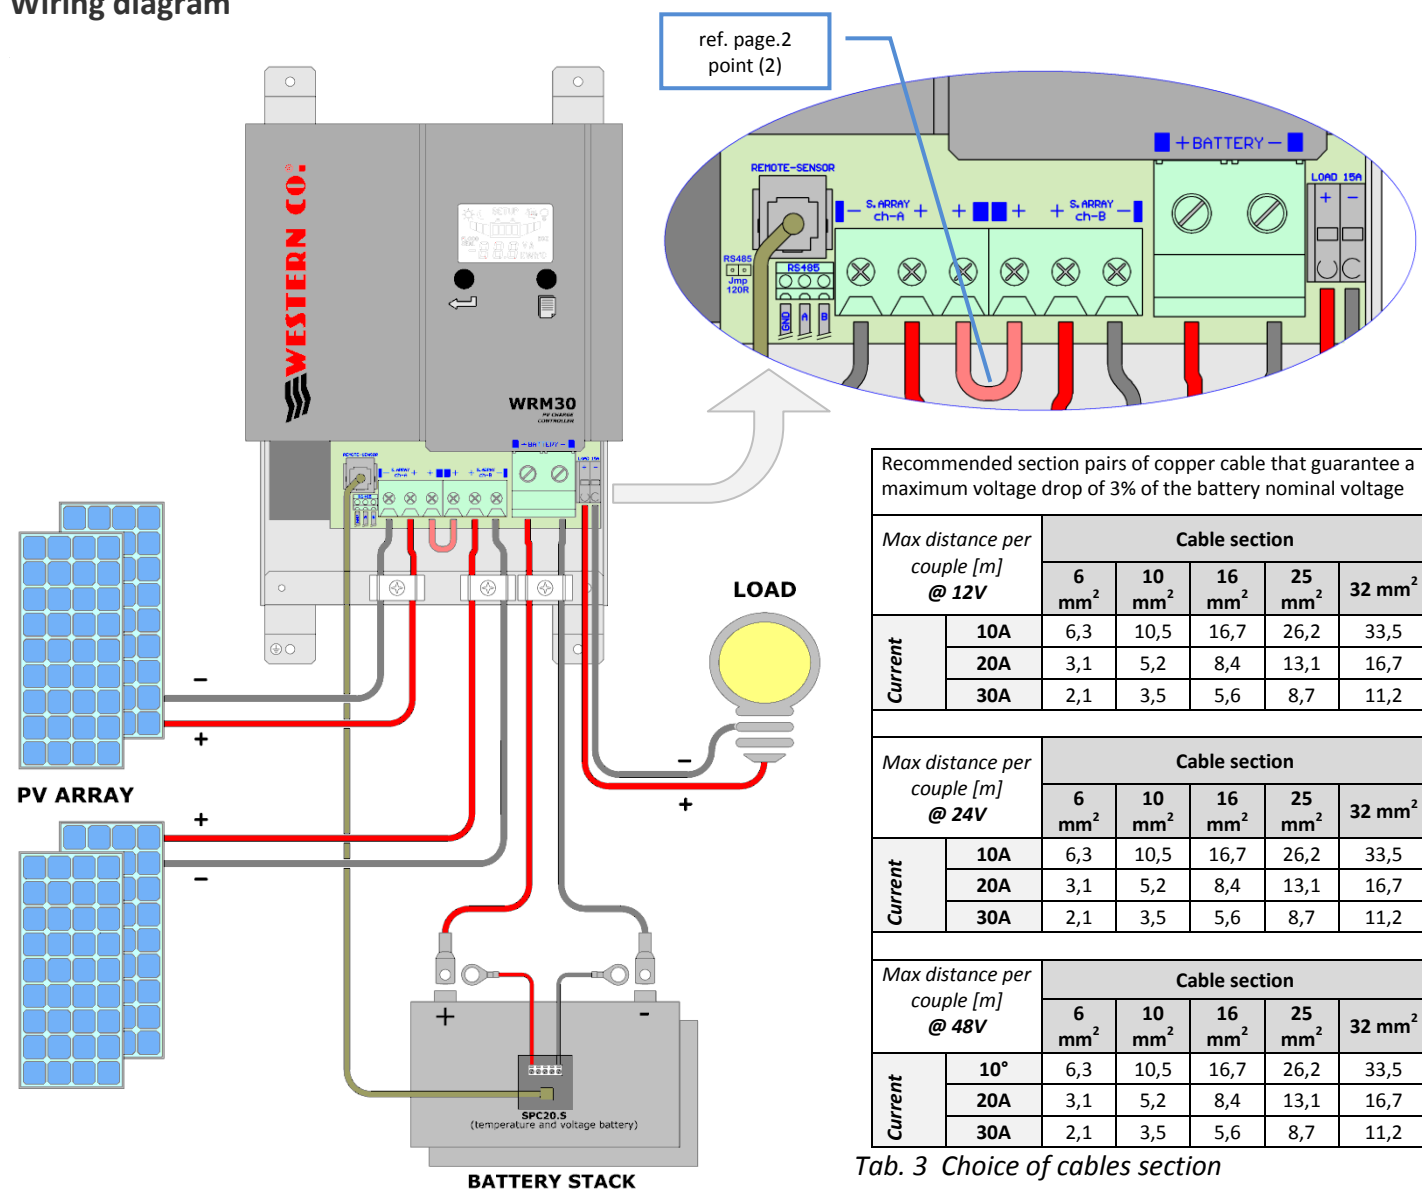

Fig. 2 Wiring diagram
- 3) Connect in the following order: load, sensor for measure of battery temperature and voltage (included), PV module, and finally the battery as in the diagram *fig. 2*. At battery connection, the charge controller turns on and starts to work. The cable sections must be chosen so that in each length of cable the maximum permissible voltage drop is less than 3% of the system nominal voltage (Tab. 3)